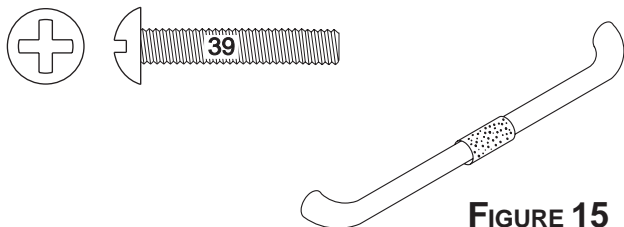

FIGURE 15
For your added comfort a foam grip (16) has been provided. FIGURE 15.